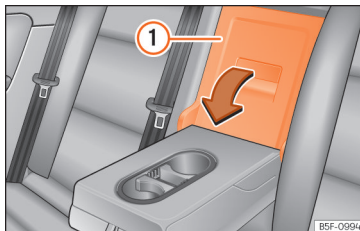

Fig. 125 In the rear seat backrest: opening the trapdoor.
- Pull the release lever in the direction of the arrow and push the tailboard cover »» Fig. 125 ① down and forwards.